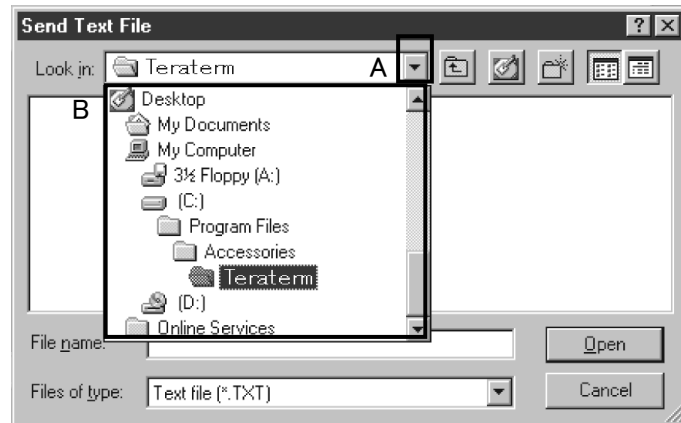

Fig. 11-23
- ②Click on ▼ next to [Look in:] to select the hard disk drive storing a created user scale file (Fig. 11-23).